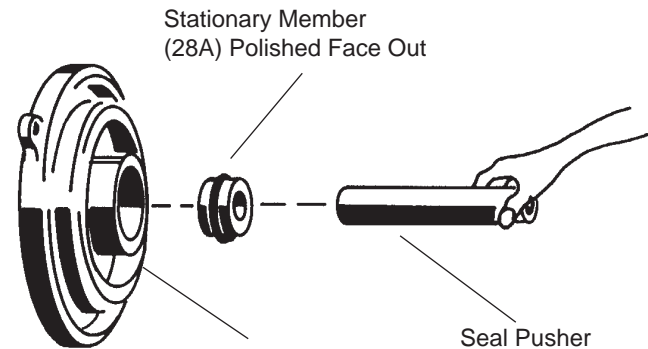
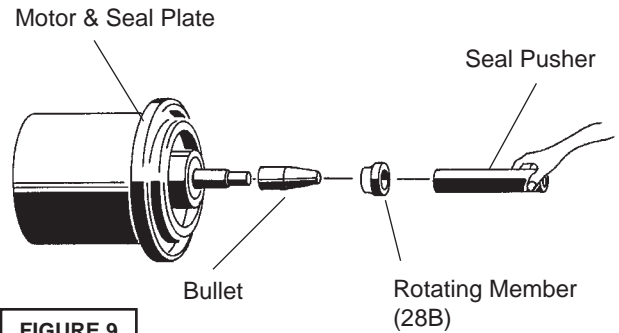

FIGURE 8 Seal Plate (5) for L series and (29) for DS series
FIGURE 9
Inner Seal (DS Units Only)- Clean and oil seal cavities in seal plates (5, 29). Lightly oil (**DO NOT use grease**) outer surface of stationary member (28a). Press stationary member (28a) firmly into inner seal plate (5), using a seal pusher. Nothing but the seal pusher is to come in contact with seal face (see Figure 8).
Make sure the stationary member is in straight. Slide a bullet over motor shaft. Lightly oil (**DO NOT use grease**) shaft, bullet and inner surface of bellows on rotating member (28b) see Figure 9. With lapped surface of rotating member (28b) facing inward toward stationary member, slide rotating member over bullet and onto shaft, using seal pusher, until lapped faces of (28a) and (28b) are together (see Figure 8).